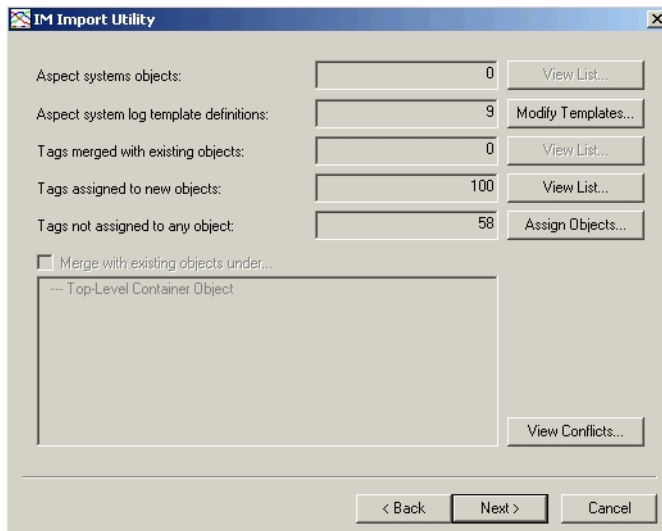

Figure 265. Assign Objects Summary
- Click **Close**. This displays the Assign Objects summary again. This time the summary indicates the result of the assign objects process, Figure 265.